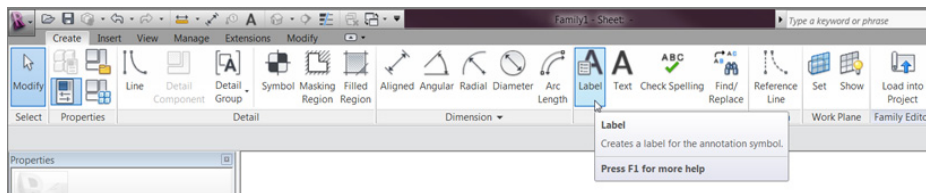

FIGURE 11.75: Clicking the Label button
1. In the Text panel on the Create tab, click the Label button, as shown in Figure 11.75.